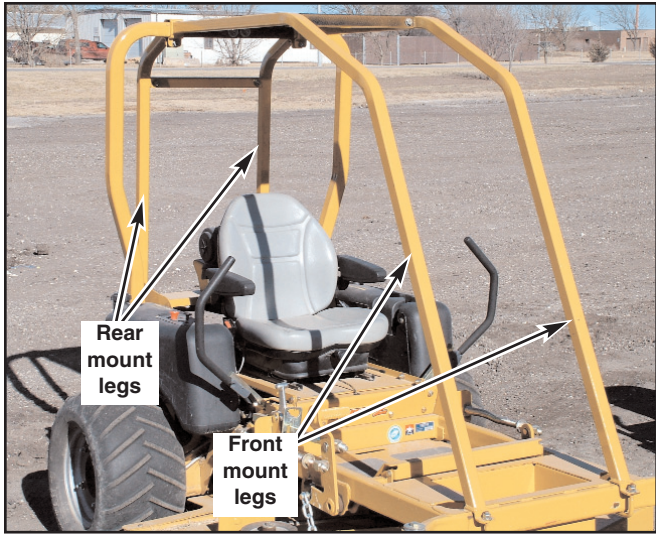

Figure 3-16
3. The front and rear mount legs of the ROPS structure. The two post ROPS structure will remain. Fig. 3-16